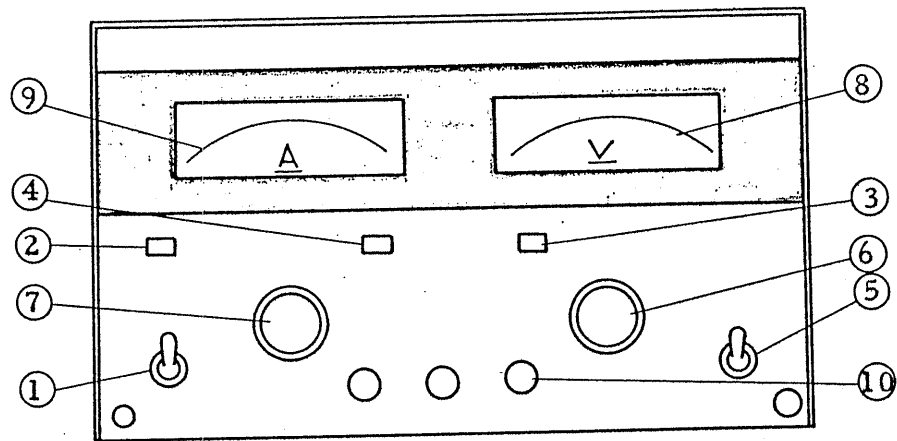

Fig. 1 Front Panel
3.1 Explanation of panel (See Fig. 1.)